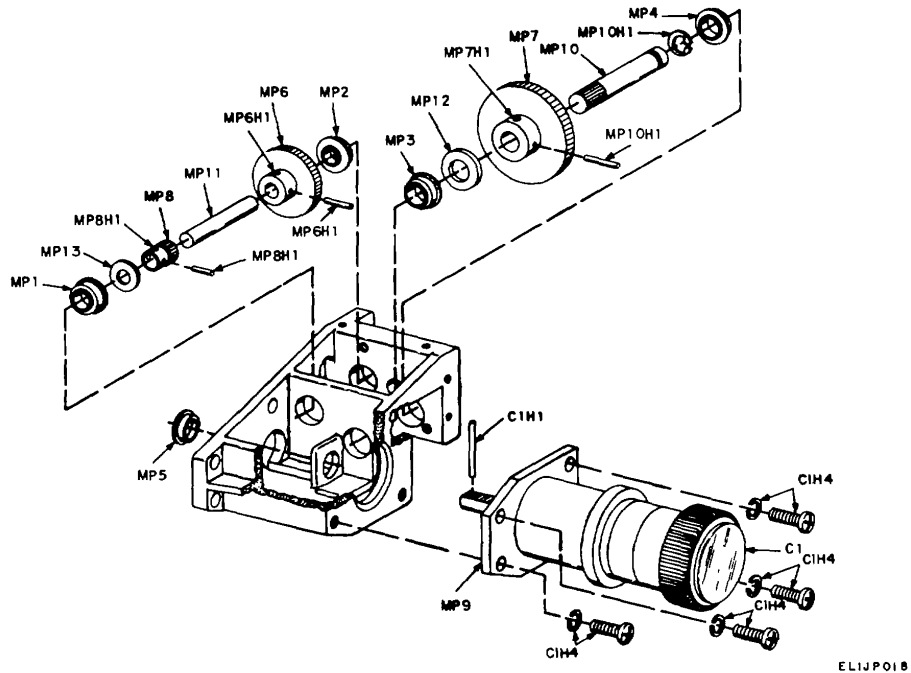

Figure 4-1. Gear train assembly A3, exploded view.
(1) Remove core flux generator holders MP-16 and MP17 by loosening and removing four screws, flat washers, and lockwashers MP54H.
(2) Remove plate L4 by loosening one screw and lockwasher L4H1 and two screws MP23H1 and MP22H1 and then unsoldering the end of L4 from antenna element MP13.
(3) Remove four screws MP5H4 and carefully position flux generator bracket MP5 away from the base plate.
(4) Remove four screws and lockwashers MP2H4 and separate flux generator base MP2 from the base plate.
(5) Coil L1 or L2 is removed from flux generator base MP2 by removing two screws, lockwashers and flat washers L1 or L2H2.
*d. Removal of Capacitor A3C1. (fig. 4-1)*
(1) Remove access panel MP18 by loosening three screws MP18H3 and five screws MP18H5.
(2) Remove the screw, washer and rim clench clamp assembly MP7 that is next to base plate MP20.
(3) Remove the two screws and lockwashers MP12H3 and the three screws and lockwashers MP12H3 that are attached to cover MP12
(4) Remove cover MP 11 by loosening four screws MP11H4 and two screws MP11H2.
(5) Separate servo amplifier card A1 from backing plate MP21 by removing five screws A1H5 and one screw A1H1. Nut and washer MP6H1 and loop clamp MP6 are attached to screw A1H1
(6) Remove four screws MP21H4 from backing plate MP21 and carefully position backing plate MP21 away from control motor B1.
(7) Remove the remaining three screws, washer, and rim clench clamp assemblies MP7 on control motor B1.
(8) Remove four screws A3H4 and lockwashers A3H6 and two screws A3H2 and lockwashers A3H6 and separate gear train assembly from base plate MP20.
*g. Disassembly of Gear Train Assembly A3. (fig. 4-1)*
(1) Removal of gears MP6 and MP8.
(1) Position gear train assembly A3 on base plate MP20, inserting the shaft of control motor B1 through the hole in the casting that allows the shaft to engage gear MP6 (fig. 4-1)
(2) Secure control motor B1 to gear train assembly A3 with the two screws, washer, and rim clench clamp assemblies MP7 that are away from base plate MP20.
(3) Secure gear train assembly A3 to base plate MP20 using four screws A3H4 and lockwashers A3H6
(fig. 4-1)